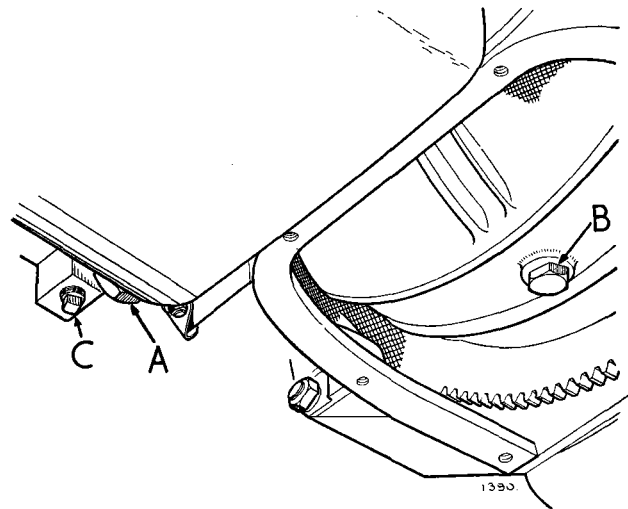

Fig. 18. Drain plugs (converter housing cover plate removed).
6. Remove the transmission oil pan drain plug (A, Fig. 18).